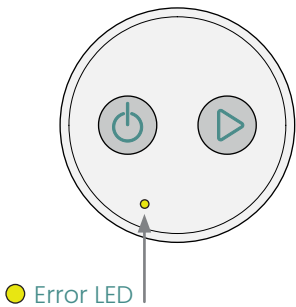

Figure 12.7.2
- Error LED **light alone is yellow** (Figure 12.7.2).